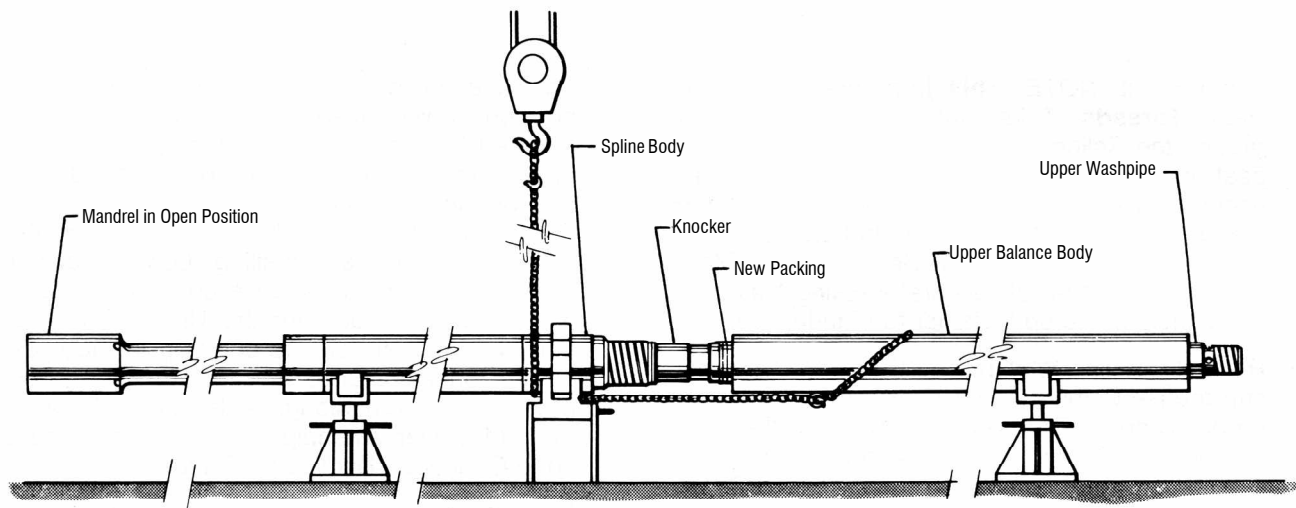

Figure 7
5. Relocate in vise to clamp on Spline Body. Apply cup grease to the I.D. of Knocker (20) and make up on Mandrel. File down any burrs on the O.D. of Knocker. Apply a thick coating of Bowen Itcolube on exposed Splines of the Mandrel. Work Mandrel back and forth through its full stroke length a few times and then open tool until Knocker is against Spline Body. Install Mandrel Packing Support (22) with its Packing and O-Ring. Apply cup grease to the I.D. of the support so it can slide easily onto Mandrel. Make up Mandrel-Washpipe Connector (26) to Mandrel. File down any burrs on the O.D. of the Connector. Note that the end of the Mandrel-Washpipe Connector with the Wiper Seal is the "down end."
6. Install Upper Washpipe (30) into Mandrel-Washpipe Connector. Coat the O.D. of the Knocker, Mandrel Packing Support Package, Mandrel-Washpipe Connector, and Upper Washpipe with cup grease. Using chain comealong and/or the 15-foot chain around the vise and pulled with the hoist, slide Upper Balance Body (19) over Connector onto Mandrel and make up to Spline Body. See Figure 7, page 13.
7. Slide Connector Body, with its Wiper, along Upper Washpipe and make up to Upper Balance Body. Relocate tool in support stand and vise to clamp down end of Upper Balance Body. Slide connector Body Packing Support (41), with its Packing and O-Ring and Connector Body Packing Retainer (45), with its Wiper, along Washpipe and into Connector Body. Make up Retainer to Connector Body.